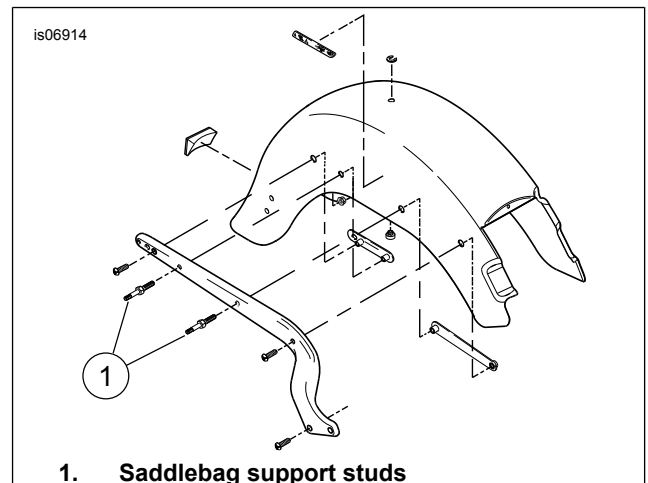

Figure 1. Original Equipment Hardware (FLSTS model shown)
- See Figure 1. Remove the saddlebag support studs and their mounting hardware.